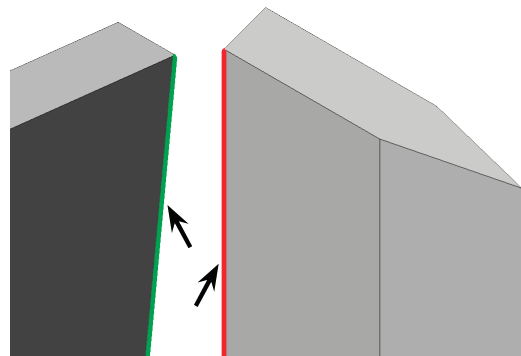

Fig. 9
Step 3. Click **edge of V Stab** and **edge of Rudder**, **Fig. 9**.